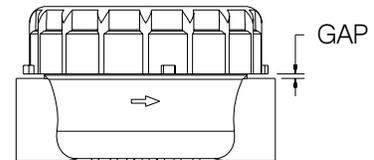

Figure 6
5. Thread on meter cap until hand tight. To check cap tightness, the gap shown should be the thickness of two nickels or smaller (.150") (See Figure 6).